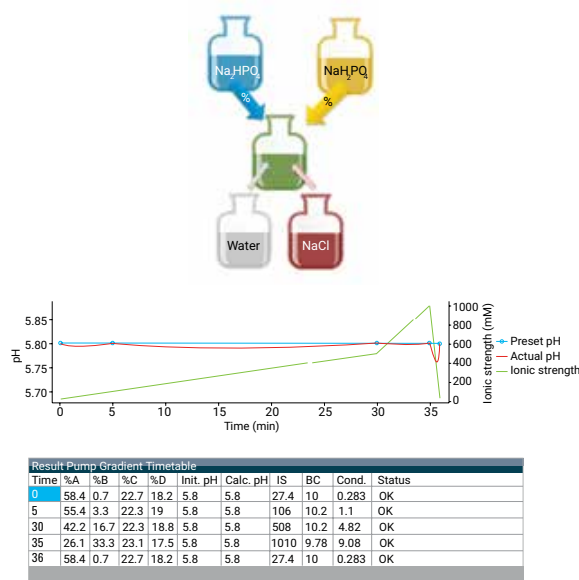

Figure 1. Quaternary mixing to create a salt gradient with constant pH.
The Agilent Buffer Advisor Software is an ideal tool to generate pH or ionic strength gradients for protein charge variant separation. It reduces the time required for method development. In this study, a series of method development scouting runs were carried out using the Buffer Advisor Software for optimal mAb charge variant separation. Figure 1 shows the charge variant profiles of innovator and biosimilar rituximab on a Bio MAb PEEK column, demonstrating high-resolution separation of charge variants in 20 minutes with three distinct peaks in biosimilar (Buffer: 30 mM, pH: 6.3, and NaCl: 0–161.5 mM). The Agilent Bio MAb columns contained a highly uniform, densely packed, weak cation exchange resin. Early and late-eluting peaks were called acidic and basic variants, respectively. The peak at 11.4 minutes was designated as the main peak. The overlay of five replicates of innovator and biosimilar rituximab shows excellent separation reproducibility (Figure 2). The average RTs and area RSDs for main peak are shown in the figure. The RSDs are within the acceptable range, which demonstrates the precision of the system.
**Figure 1.** Charge variant profiles of innovator (A) and biosimilar (B) rituximab using an Agilent Bio MAb 5  $\mu$ m column. C) Overlay of innovator and biosimilar rituximab. Peaks 1 and 2: acidic variants; 3: main form; 4, 5, 6 and 7: basic variants.
Using the four stock solutions, different buffers at different pH and salt concentration can be prepared. The Buffer Advisor software is a helpful tool to calculate the percentages of the stock solutions in order to achieve the desired pH, buffer concentration, and ionic strength (Figure 1).